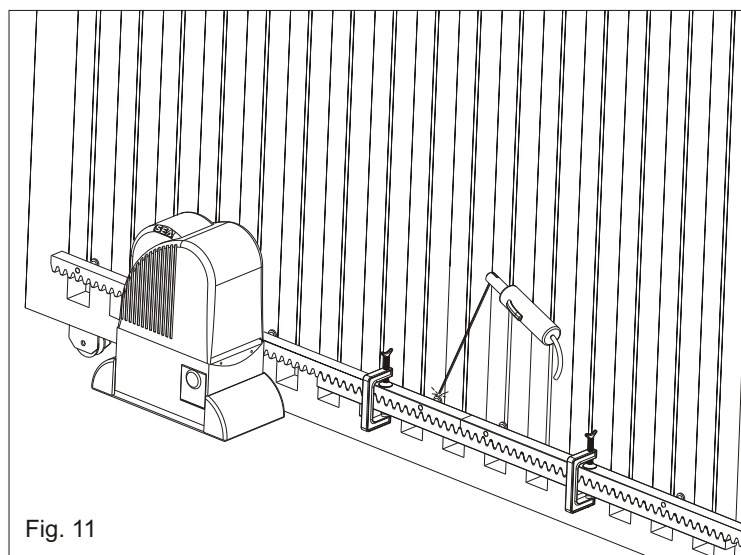

Fig. 11
**6.5.** Check all the rack pieces are perfectly aligned and placed correctly (serrations in phases). When fitting the next section of rack use a third piece as shown in Fig. 11 to ensure a good mesh.